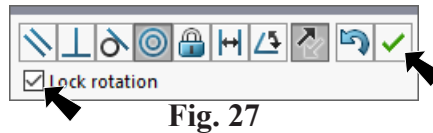

Fig. 27
Step 4. Check **Lock Rotation** and Add/Finish Mate  in Mate pop-up toolbar to add a **Concentric** mate, Fig. 27.